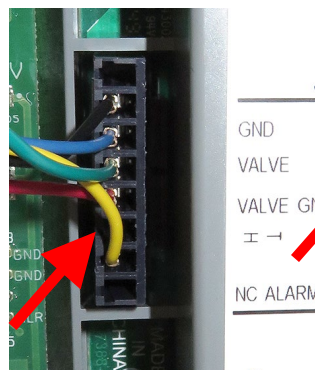

Figure 17
20. Attach the harness in previous step to the right module (see Figure 17).